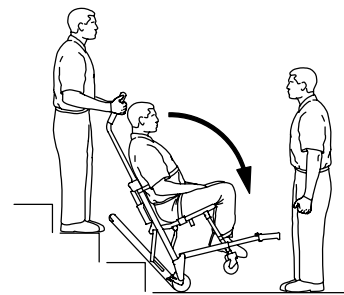

Figure 13 – Bottom of stairs
10. Foot end operator: When the track reaches the last step, release the front handles. Head end operator: Allow the chair to tip forward (Figure 13) until all four wheels are on the ground. Roll the chair (see *Transporting the occupant on flat surfaces* (page 12)).